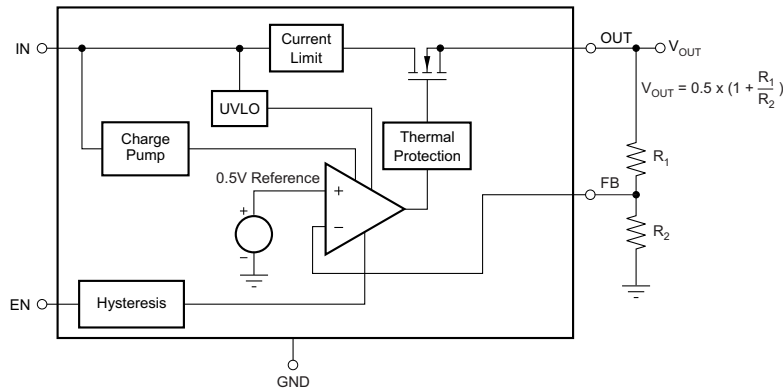

Figure 7. Adjustable Output Voltage Version
- When setting V_{OUT} to a value other than 0.5 V, connect R_2 to the FB pin using $27\text{-k}\Omega \leq R_2 \leq 33\text{-k}\Omega$ resistors. See Figure 7 for details of R_1 and R_2 .